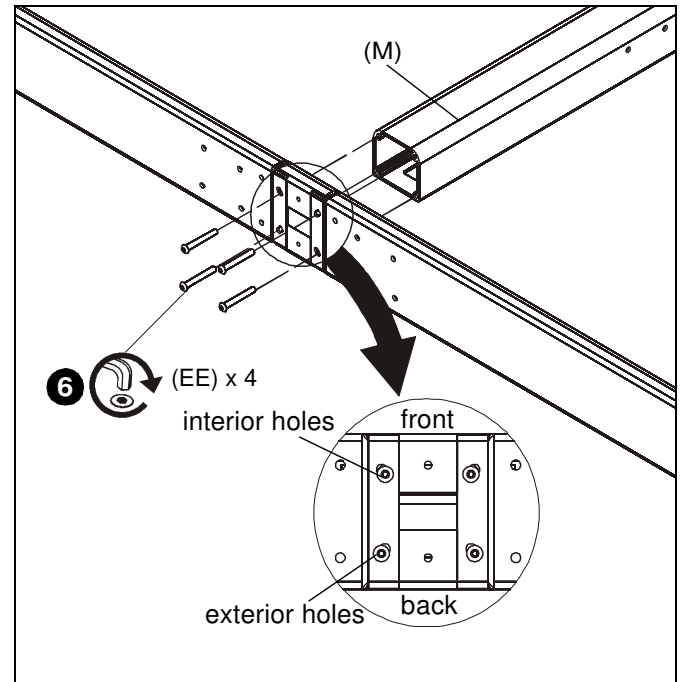

Figure 5
6. While holding extender blocks in position, install four 5/16-18 x 2 1/2" button head cap screws (EE) through extender brackets (W), extender blocks (U) and into remaining cart array column (M). (See Figure 5)
IMPORTANT ! : Be sure to use interior holes when connecting to the front of the column and exterior holes when connecting to back of column. (See Inset on Figure 5)